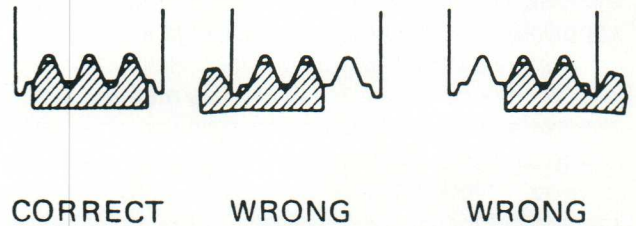

Figure 241-4
- If replacing the drive belt, check to see that it fits properly in the ribbed grooves (Figure 241-4). Then, run the engine for about 5 minutes and recheck the tension.